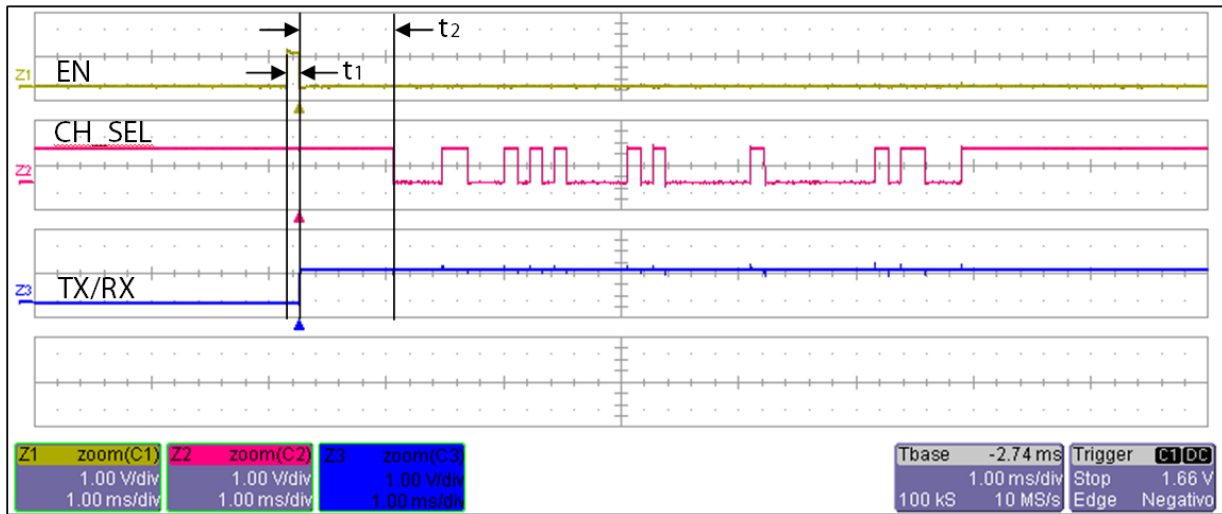

Figure 1: timings. $80\mu s < t_1 < 120\mu s$; $t_2 > 4ms$
- generate a high pulse **t1** with a duration within **80 μs and 120 μs** on **EN line** (see Figure 1).
The time **t2** between the end of the pulse on EN line and start of data transmission on CH_SEL must be at least **4 ms** (see Figure 1).